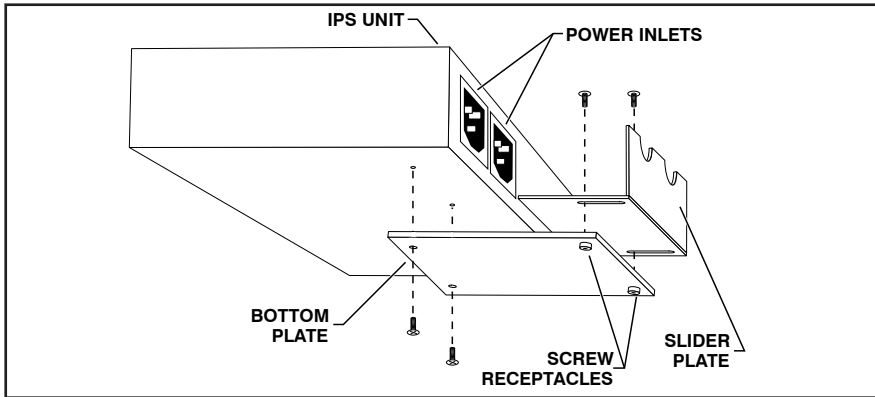

Figure 4.1: IPS-800 Series Cable Keeper Installation
2. Use the screws supplied with the cable keeper kit to attach the bottom plate to the underside of the IPS unit as shown in Figure 4.1. When properly attached, the bottom plate will protrude about one inch beyond the edge of the IPS unit.
3. Use the screws supplied with the cable keeper kit to loosely attach the slider plate to the bottom plate as shown in Figure 4.1. Make certain that the slider plate moves freely, ensuring that it can be easily moved into position once the power cables are in place.